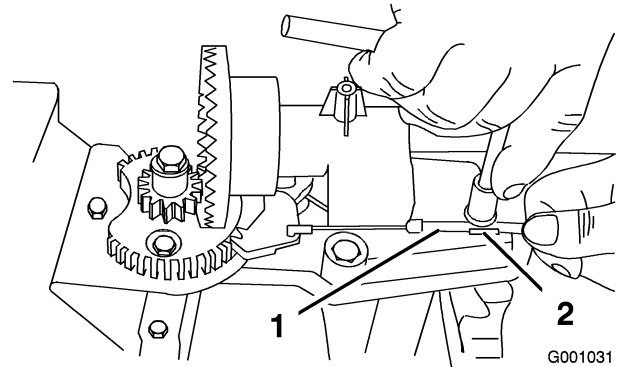
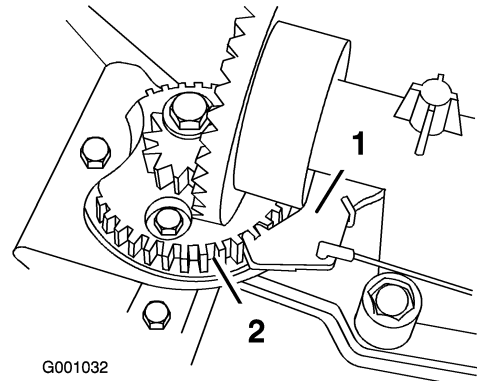

Figure 48
Figure 49
2. Loosen the bolt on the cable clamp (Figure 48).
3. Grasp the cable conduit and move it toward the front of the machine until the discharge chute latch fully engages the gear teeth (Figure 48 and Figure 49).
Note: The latch is spring loaded and will naturally move into the teeth of the gear (Figure 49).